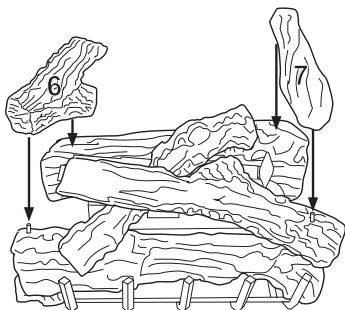

Figure 39 - Installing Logs #6 and #7, Model CD42M-LS
6. Place log #6 (left log) on left pin of front log (#2) and smooth surface of rear log (#3). Make sure it is seated properly (see Figure 39*).
7. Place log #7 (right log) on right pin of top log (#5). Make sure it is seated properly (see Figure 39).